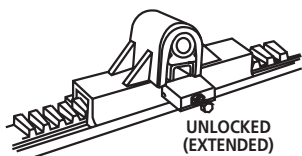

Figure 4a
4. Visually check that both plungers are fully extended as shown in figure 4a.